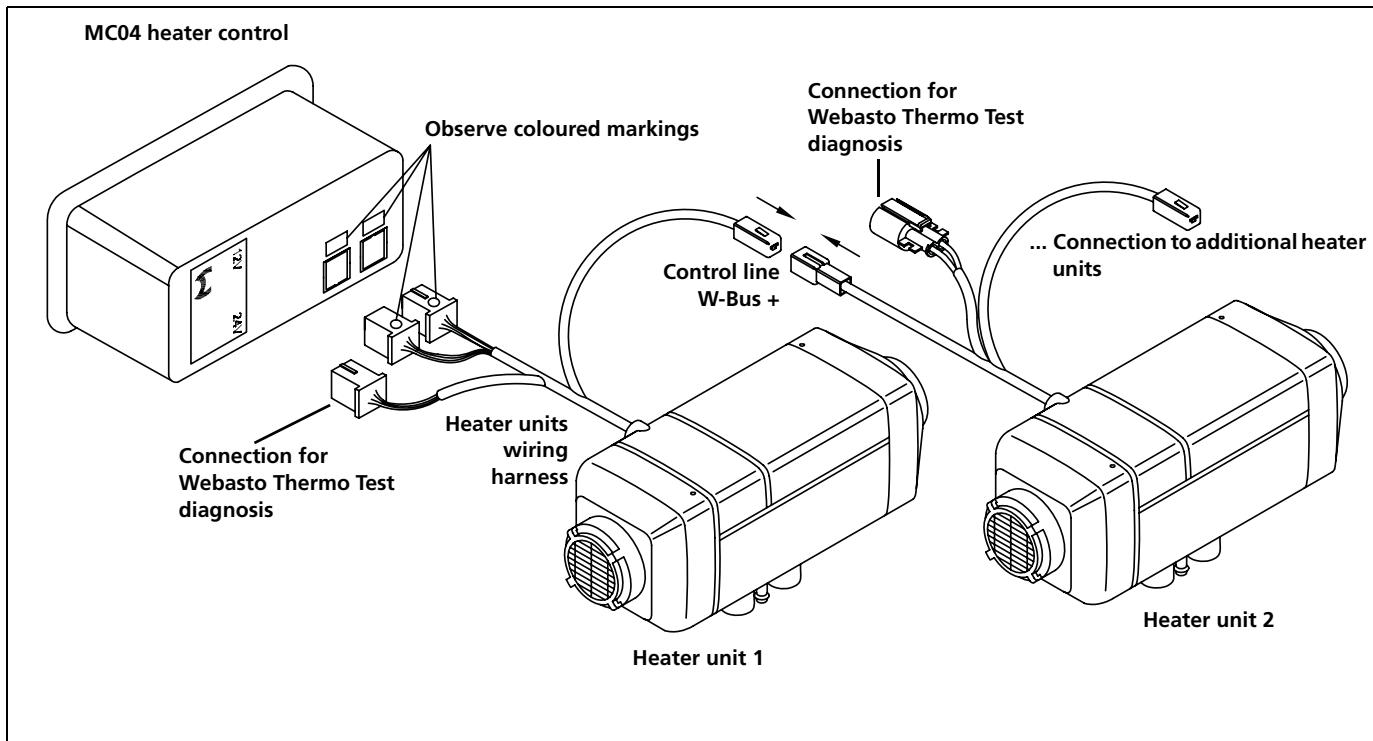
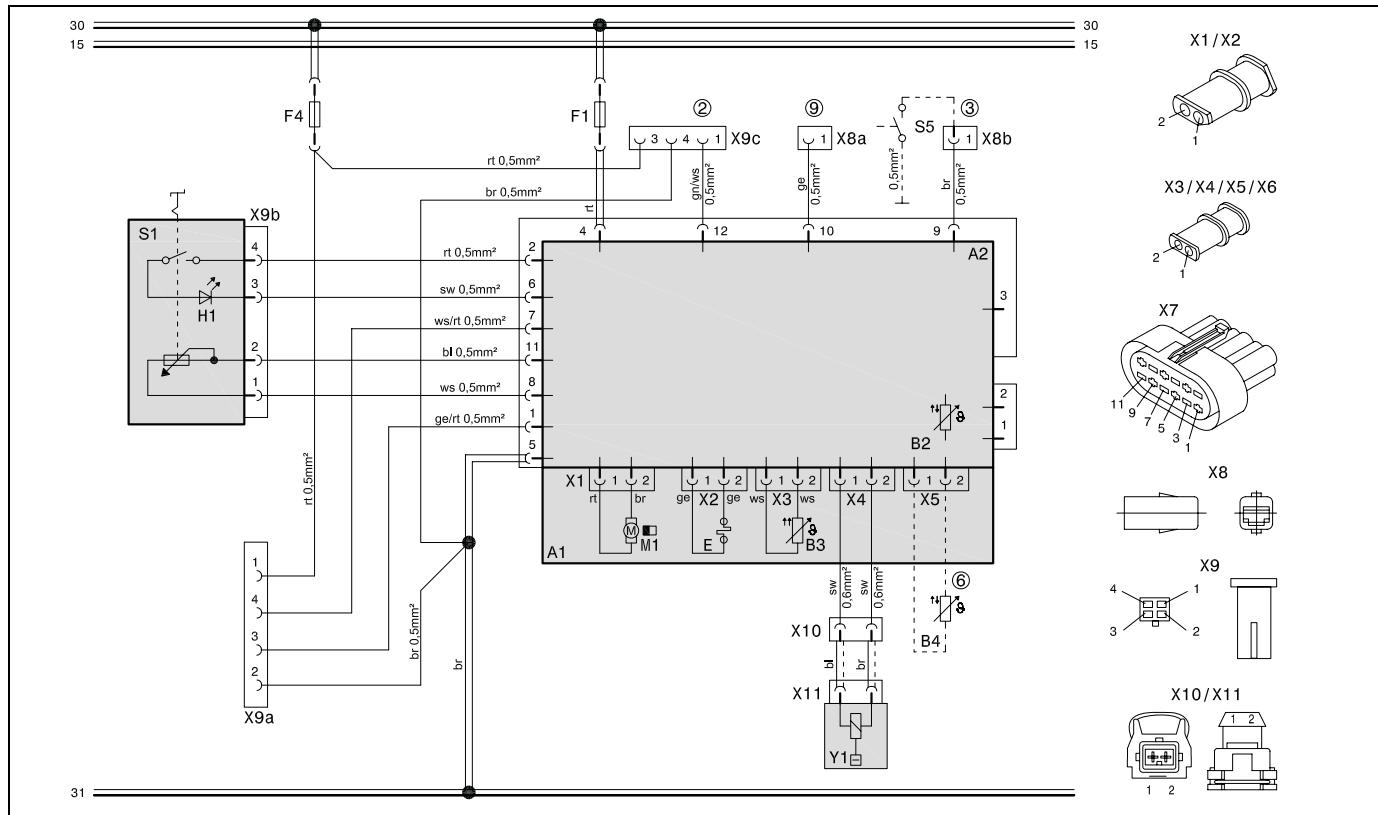
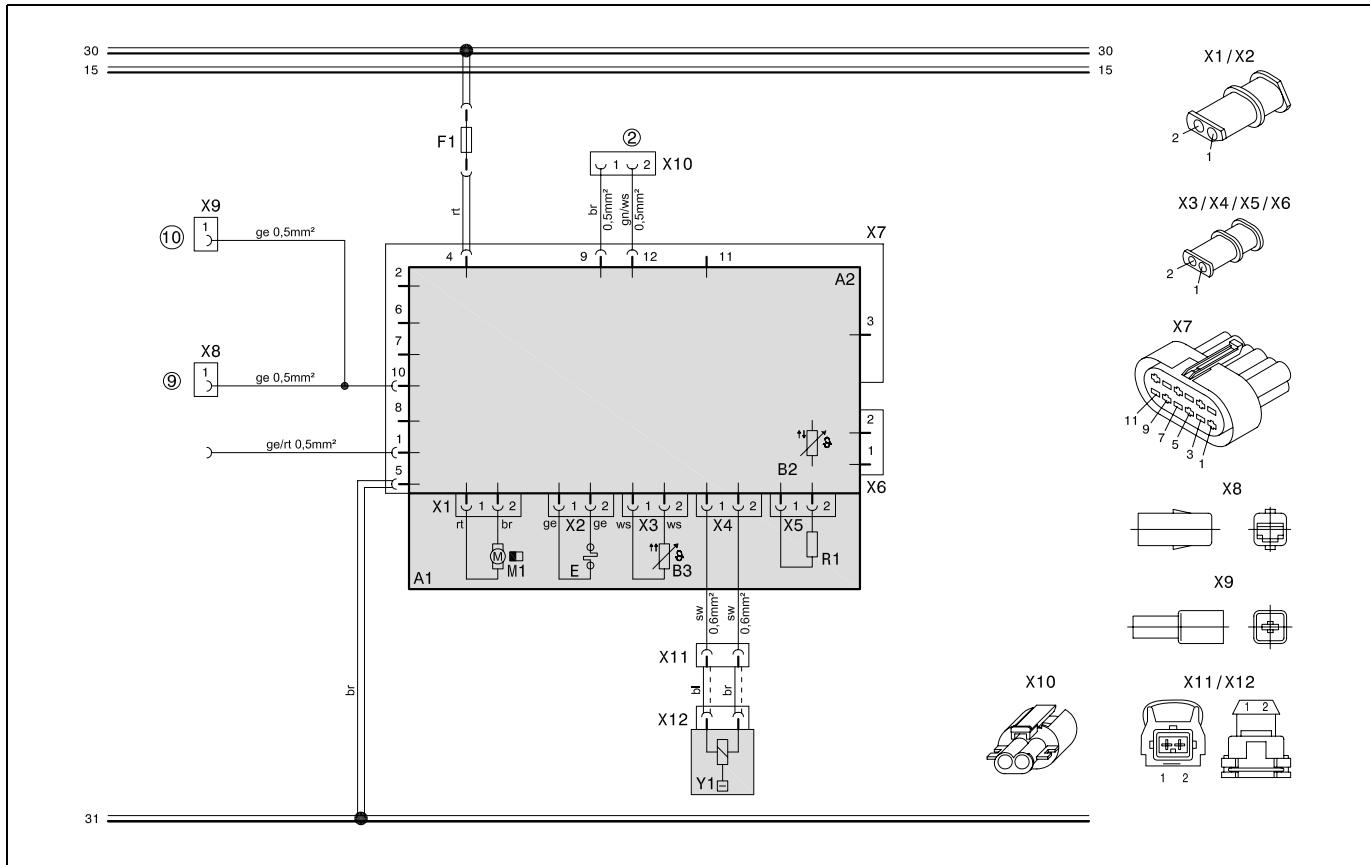

Fig. 2: Connection diagram of Air Top Evo 3900/5500 AM (connection of combination timer 1531 and setpoint generator possible)
Fig. 3: System wiring diagram for Air Top Evo 3900/5500 AM "Master Heater Unit", 12 V/24 V diesel with heater control, for legend, see Page 27 and 28
Fig. 6: System wiring diagram for Air Top Evo 3900/5500 AM "Slave Heater Unit", 12 V/24 V diesel, for legend, see Page 27 and 28
Here Unit 1 is defined as the master heater unit and others as slave heater units. The heater control and an external temperature sensor (T) are connected to the master heater unit (see wiring diagram in Figure 3, 4, 5). The slave heater unit is connected in accordance with the wiring diagram (see Figure 6). The units communicate with each other via a serial bus system.
2. Establishment of electrical contacts according to system wiring diagram (Figure 2 to Figure 6)